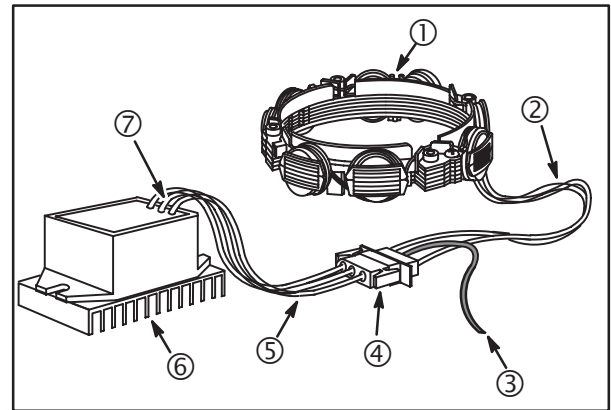

Fig. 30
1. Stator assembly (1), **Fig. 30**.
2. Two YELLOW leads (2) from stator.
3. RED DC output lead (3) from connector.
4. Connector (4).
5. Two YELLOW AC input leads (5).
6. Regulator-rectifier (6).
7. RED DC output lead (7) to connector